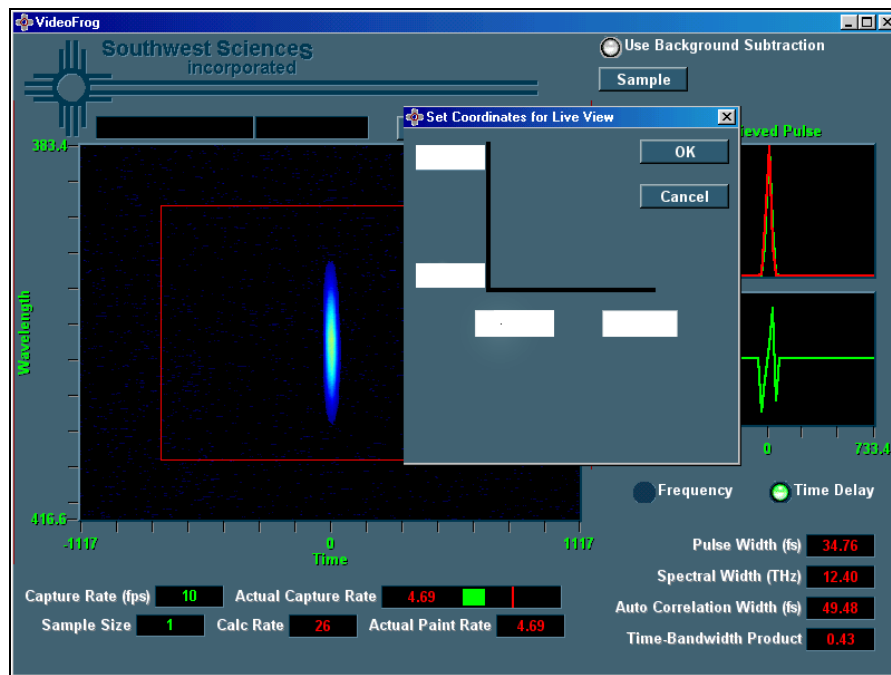

Figure 2: The main VideoFROG screen, with the "live view" configuration dialog displayed.
1. Once VideoFROG has been installed, run the program and position the mouse cursor over one of the axis limit numbers, on either the x- or y-axis around the live display window, and left-click. The "Set Coordinates for Live View" window will appear. The VideoFROG window should look like Figure 2 below, where we've replaced the calibration numbers with white rectangles: